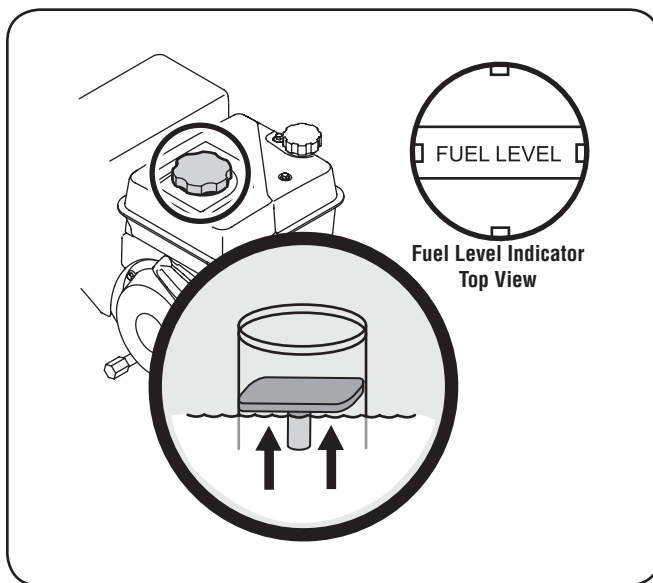

Figure 3-12
2. A fuel level indicator is located in the fuel tank. Fill the tank until the fuel reaches the fuel level indicator, Fig. 3-12. Be careful not to overfill.